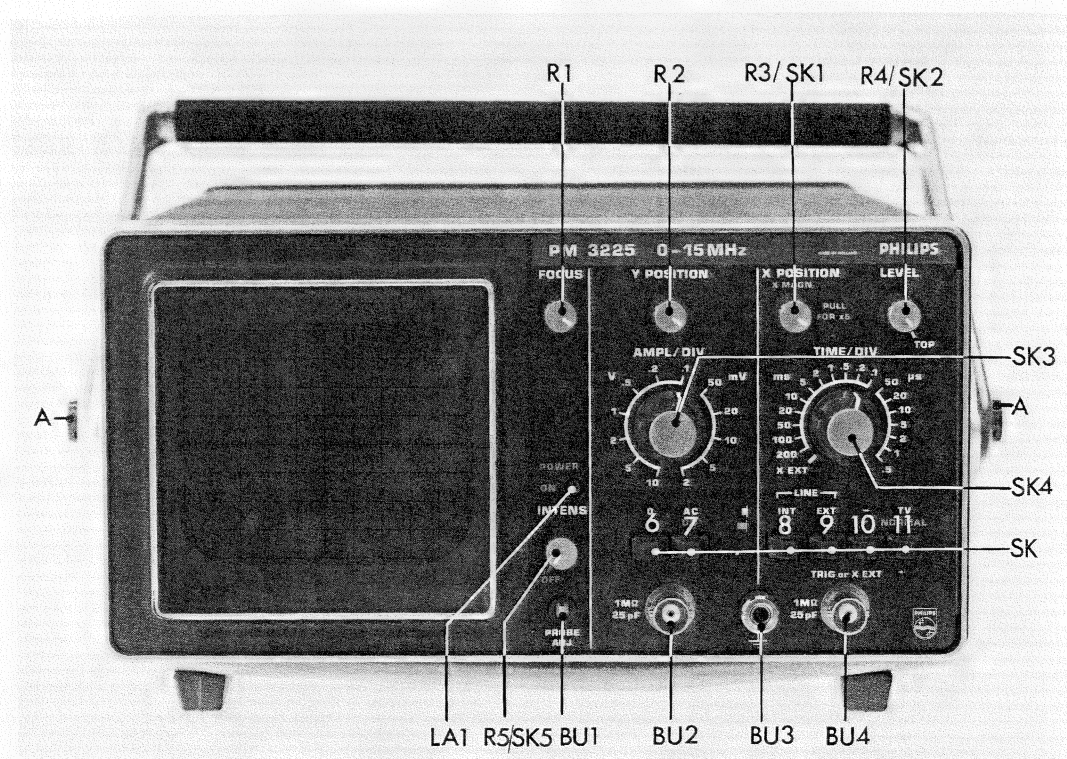

Fig. 2.2. Front view showing controls and sockets
The instrument may be used horizontally or in several sloping positions by employing the carrying handle as a tilting bracket. To release the handle, push both pivot centre buttons A (see Fig. 2.2).
2.1.6 Controls and sockets (Fig. 2.2)
- Connect the measuring lead to socket BU2 and place the tip of the probe on BU1 (see Fig. 2.2.).
- Connect the compensation box to BU2 and place the tip of the probe on BU1 (see Fig. 2.2.).